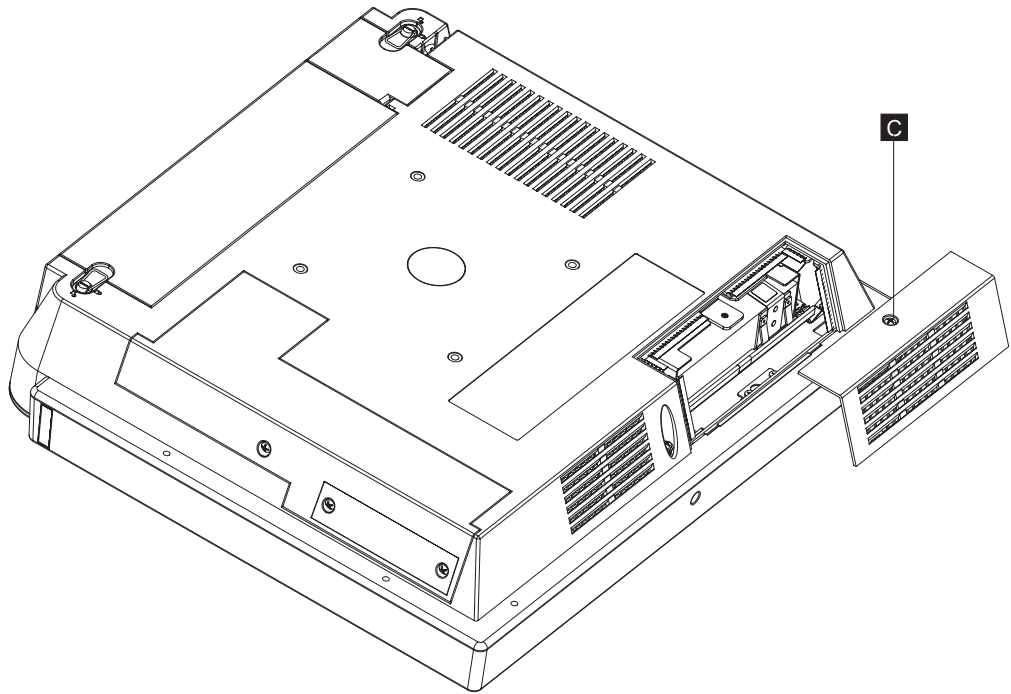

Figure 12. Opening the HDD door
1. Loosen the captured screw (**C** in Figure 12) to remove the HDD door.